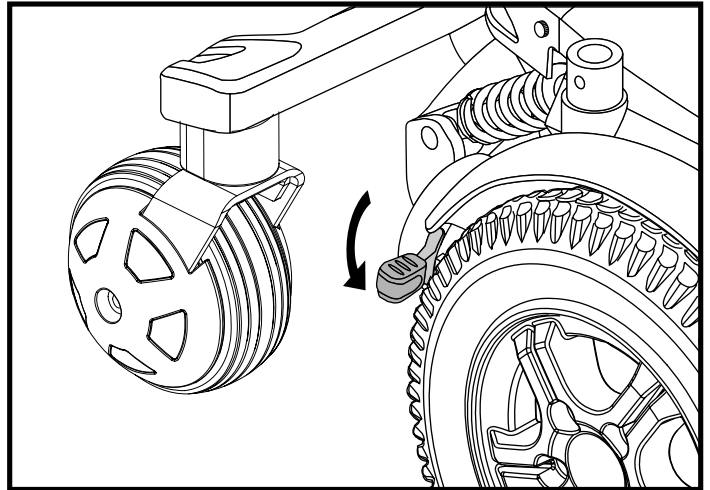

Figure 9. Freewheel Mode (Drive Disengaged)
2. Push down both manual freewheel levers to disengage the drive motors (freewheel mode). See figure 9.